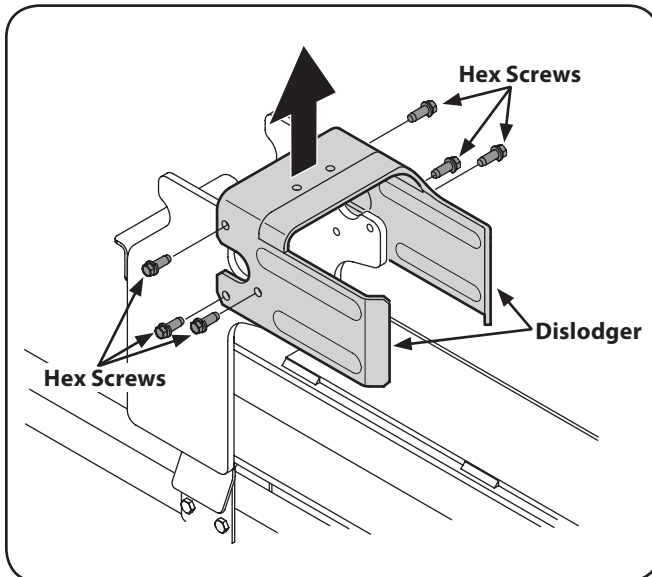

Figure 3-4
2. Disconnect the dislodger from the beam weld bracket by removing the six hex screws. See Fig. 3-4.